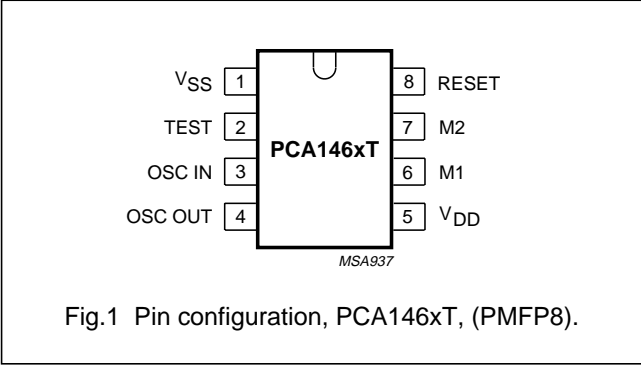

Fig.1 Pin configuration, PCA146xT, (PMFP8).
1. Figure 1 and Chapter "Package outline" show details of standard package, available for large orders only. Chapter "Chip dimensions and bonding pad locations" shows exact pad locations for other delivery formats.